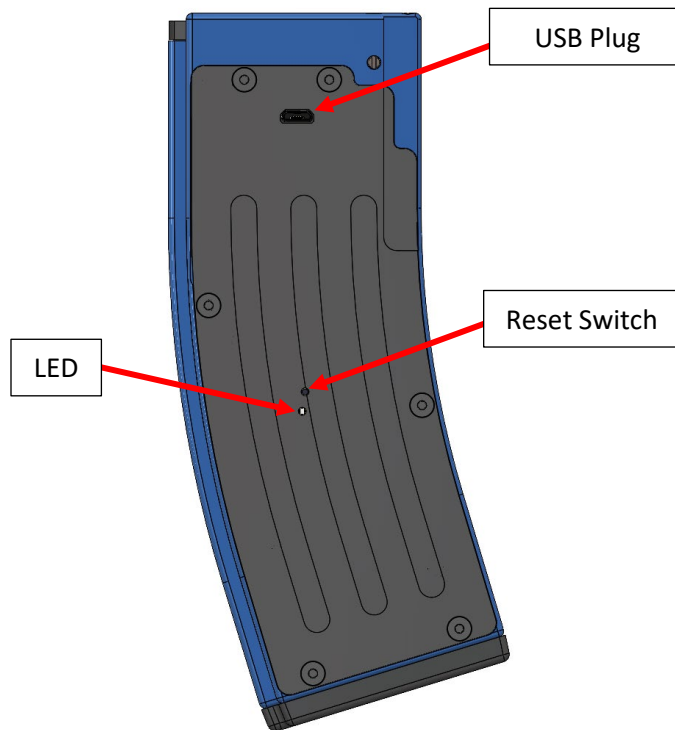

Figure 4, Location of Reset Switch, USB Plug, and LED.
- If the M4-ASM-V3 green LED light is on, and Magazine does not show up in VOS first try resetting the magazine by pressing the reset button with a small tool through the hole in the front cover as shown in Figure 4.